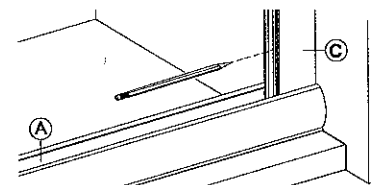
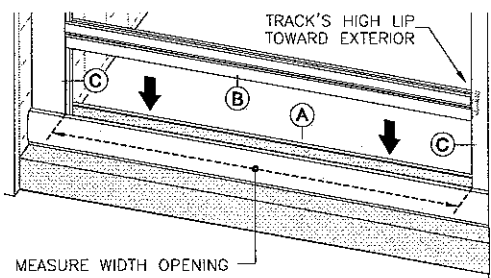

figure 2
figure 3
3. Place Wall Jambs (C) into ends of Sill (A) and up against shower walls as shown in figure 2. Plumb the Jambs, then pencil mark their installation holes locations on the shower walls (3 per jamb). Remove Wall Jambs. Using a 3/16" masonry bit, drill 1" deep installation holes in locations previously marked. Insert Plastic Screw Anchors (N) into holes.
4. Reposition Wall Jambs (C) as before and secure Jambs to walls using the six(6) 1-1/4" Installation Screws provided (3 per jamb).
5. Before proceeding, determine which side you want your door to strike (left or right, your choice). Now measure the opening width between the two Wall Jambs (C) as shown in figure 3 and trim the **strike side end** of Sill Guide Track (B) to measurement obtained (*always trim the strike side end, never the hinge side end*). With Guide Track's high lip toward exterior, snap Track (B) into place as shown. See also exploded view - sheet 2.